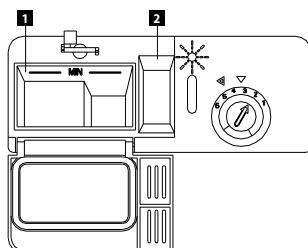

Fig. 7
The doses in the container will help you pour in the correct volume of the dishwasher detergent (Fig. 7). The container consists of the Section for main washing (1) and pre-washing (2).